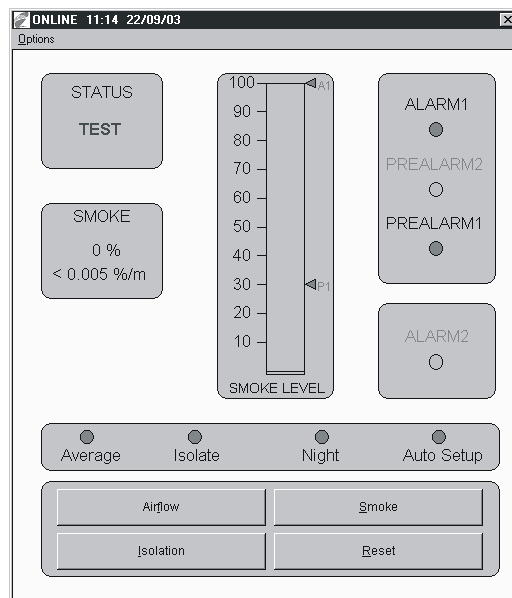

Figure 6-21. Fault Relay Test Window
1. Select **Options>Test Options>Fault Relay Test**. The trouble relay will be activated for 10 seconds. The display and control graphic will indicate that it is in test mode, as shown in Figure 6-21.